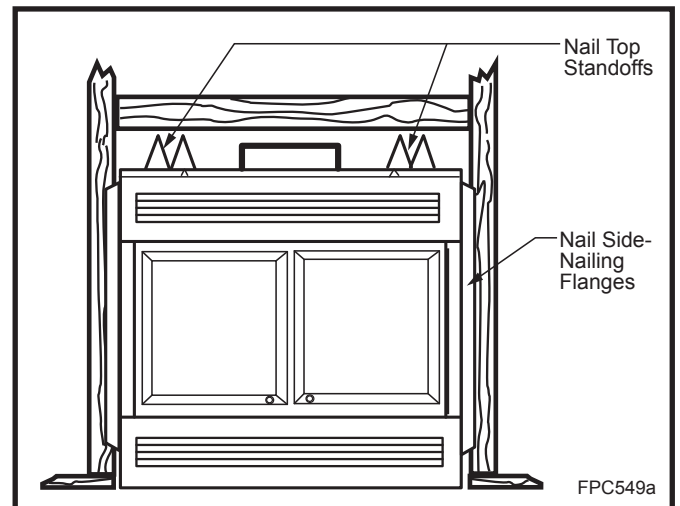

Fig. 12 Fasten fireplace in position.
Four (4) nailing flanges are supplied with the fireplace (found on the fireplace hearth). To level the box and secure it firmly in place, remove the nailing flanges from the hearth and install at the sides of the fireplace as shown in Figure 12.